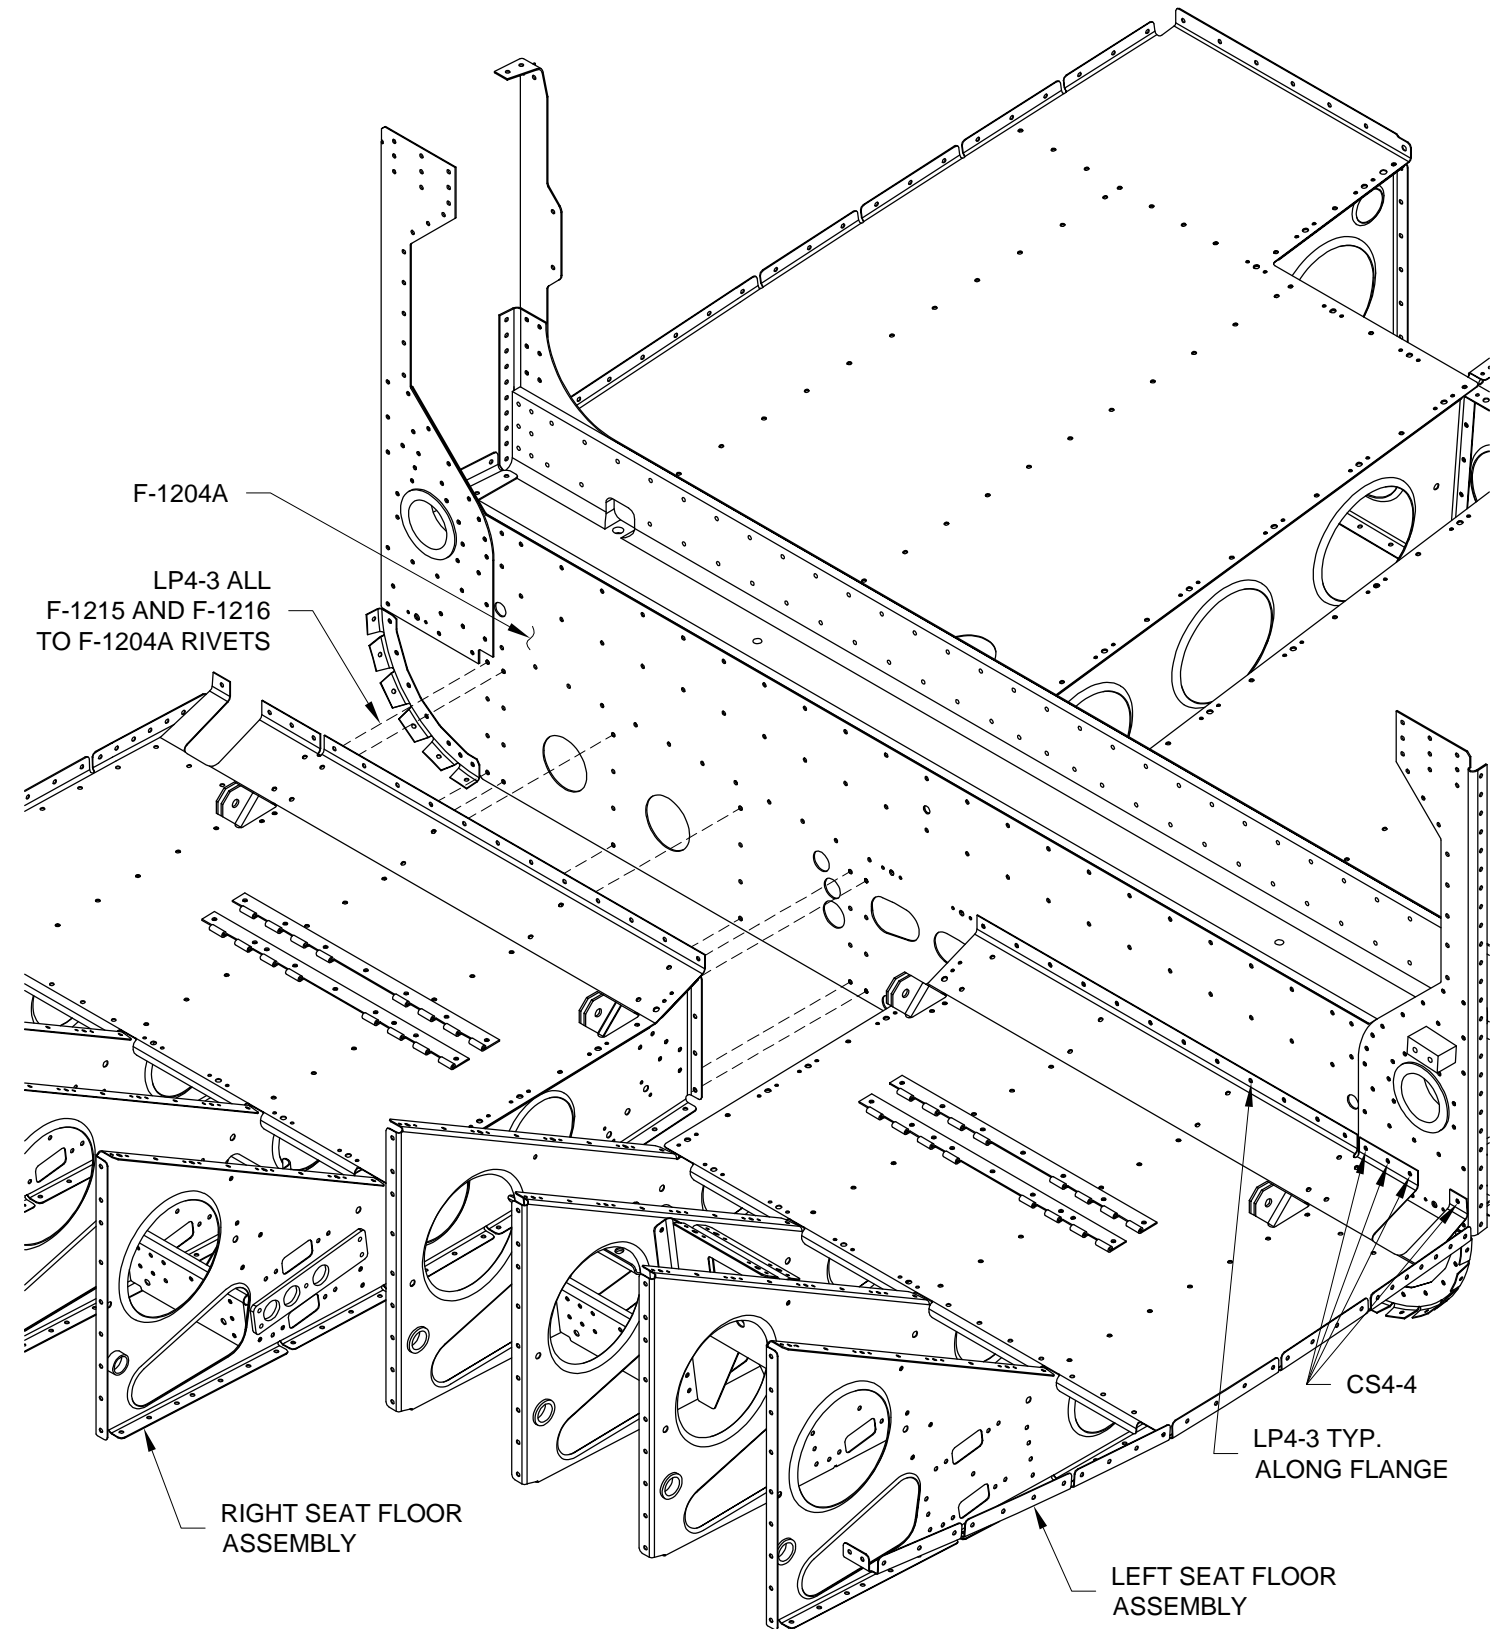

FIGURE 2: RIVET SEAT FLOOR ASSEMBLIES
Step 5: Rivet the Left and Right Seat Floor Assemblies to the F-1204A Center Section Bulkhead using the rivets called out in Figure 2. Rivet call-outs apply to both sides of the fuselage.